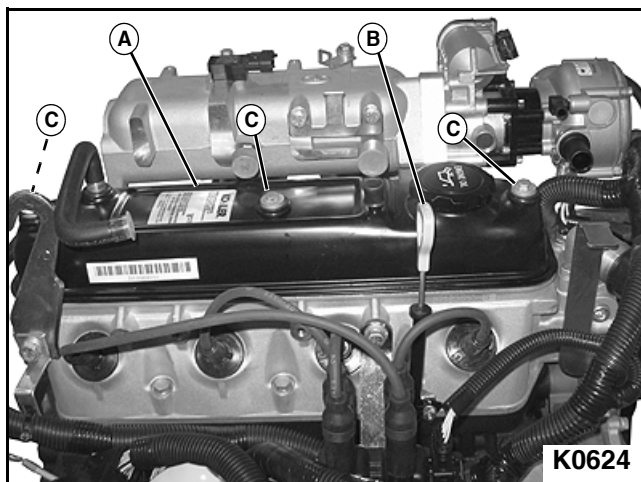

Figure 3-99
1. Install rocker arm cover (A) to cylinder head. **See Figure 3-99.**
2. Install engine oil dipstick (B).
3. Install three seals and mounting nuts (C). Tighten rocker arm cover nuts.